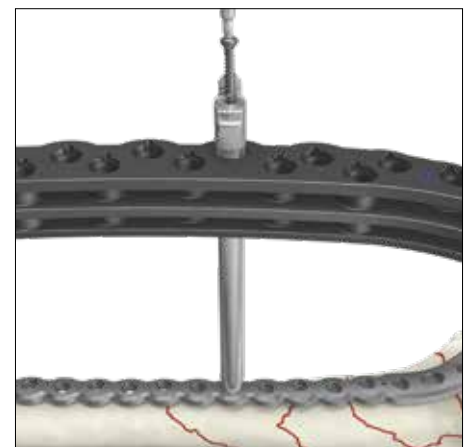

Fig. 21
Remove the drill sleeve. The appropriate size self-tapping cortical screw is inserted using the T15 screwdriver (ref 703594) or the screwdriver bit (ref 703595) should power insertion be desired (fig. 21).